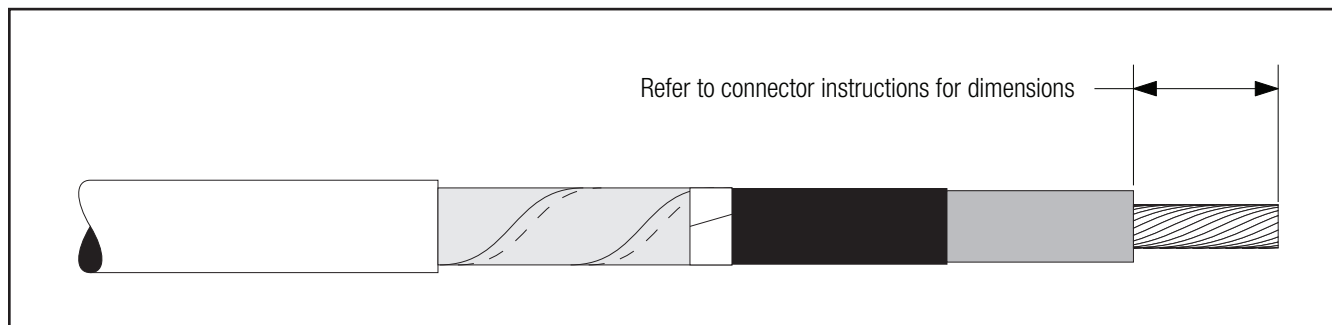

Figure 12
- 4.1** If using a 3M™ Shearbolt Connector QCI 500-1000, refer to the instructions included with the connector for insulation cut-back dimension. Insulation removal length shall not exceed 3 3/4" (95 mm) from conductor end (Figure 12).